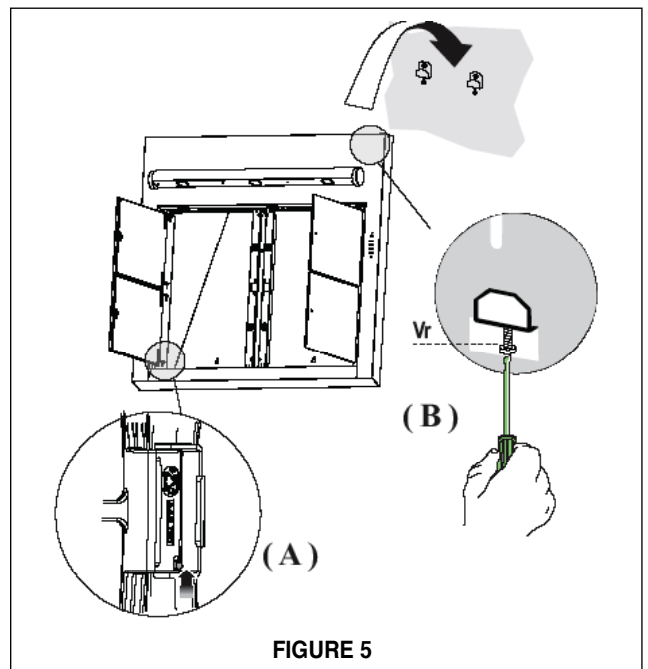

FIGURE 5
1. Open the ducting panels on the rangehood. Disconnect the 4 panels from the hood by sliding the fixing pin lever (as indicated in (A) **FIGURE 5**).
3. Adjust the two adjusting screws on the mounting hardware (B in **FIGURE 5**) to the lowest point
4. Hang the rangehood on the two mounting screws and from the inside of the hood, adjust the mounting screws to make the hood level (B in **FIGURE 5**).
2. Place the 4 ducting panels back onto the hood (as indicated in **FIGURE 5**)